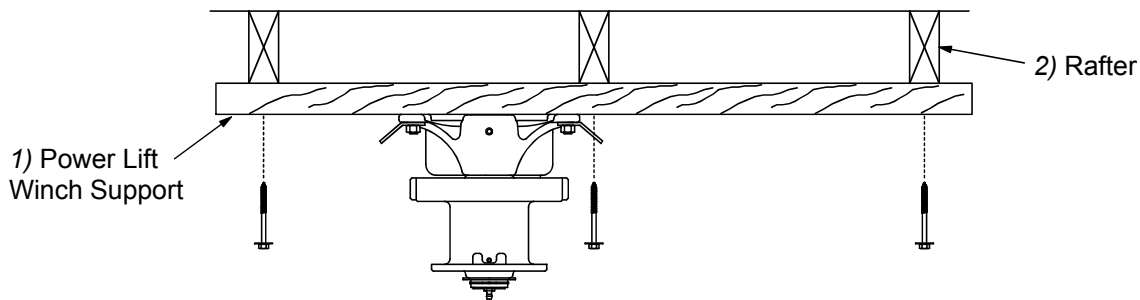

Figure 7. Mounting the Power Lift Winch and Support to the Rafters
2. Attach the power lift winch support (with the power winch secured) to the ceiling at the center of the feeder line. See **Figure 7**. The power lift winch support must be parallel to the feeder line and must span at least 3 rafters in a wood frame house and 2 rafters in a steel frame house.